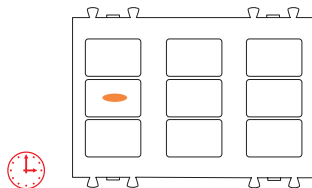

Fig. 15
The setting can be changed by moving your finger near the area again for a new amount of time (T) (see Fig.15), which overwrites the previous timing. If the amount of time you hold your finger near the sensor